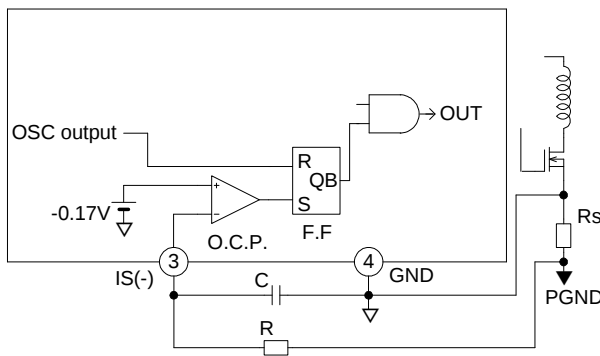
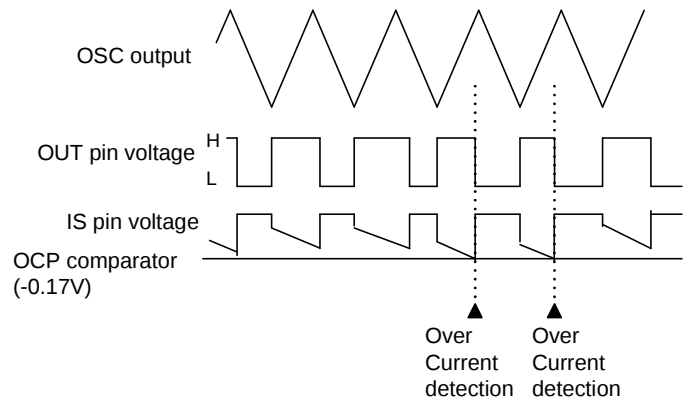

Fig.13
Fig.14
This circuit detects the peak value of every drain current pulse (pulse by pulse method) of the main switching MOSFET to limit the overcurrent, and the detection threshold voltage is -0.17V with respect to the ground level. **Fig. 13** shows overcurrent limiting circuit, and **Fig. 14** is the overcurrent timing chart.
If the overcurrent limiting circuit malfunctions due to noise, place an RC filter between the IS pin and MOSFET as shown in **Fig. 13**. (See item 6 in "Design advice")